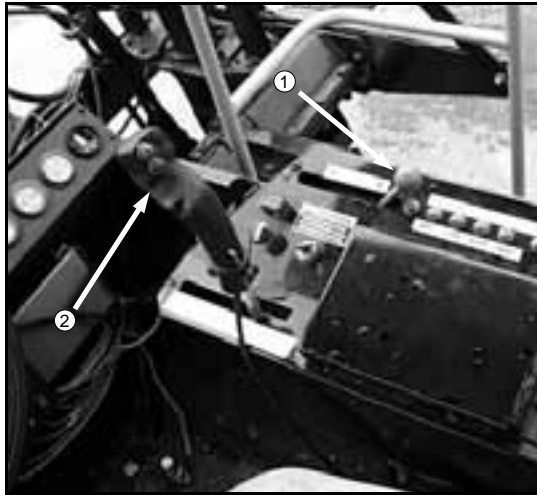

FIG 5.1
1. Open the throttle (fig. 5.1, item 1) slowly to the maximum recommended engine speed setting.
2. To move forward, slowly push the hydrostatic control lever (fig. 5.1, item 2) forward. The farther the control lever is moved, the faster the detasseler will travel. To stop, slowly pull the lever to the "N" (neutral) position.